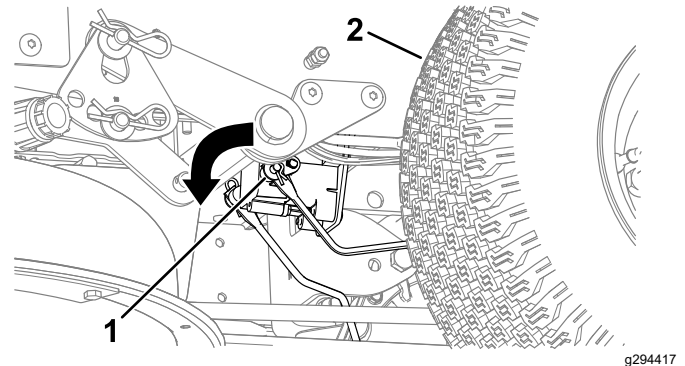

Figure 52
3. Locate the shaft on the electric brake where the brake link arms are connected (Figure 52).